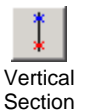

Figure 9-4 Vertical cross-section of the 10% sloped surface.
3. Open the **Calibration** window and press the vertical cross-section button to produce a section view of the image running directly along the 10% slope. The section line should look like a fairly straight, upward sloping line, as shown in Figure 9-4. Move the red cursor markers on the section graph to the far ends of the curve as shown in the figure.